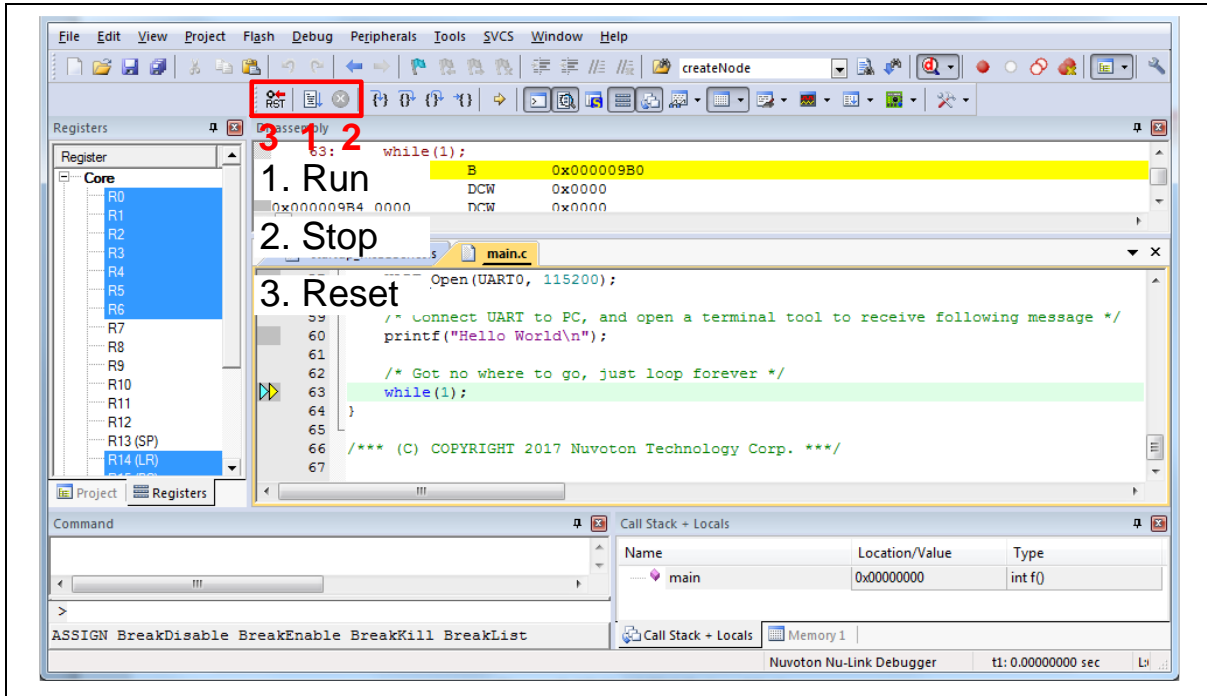
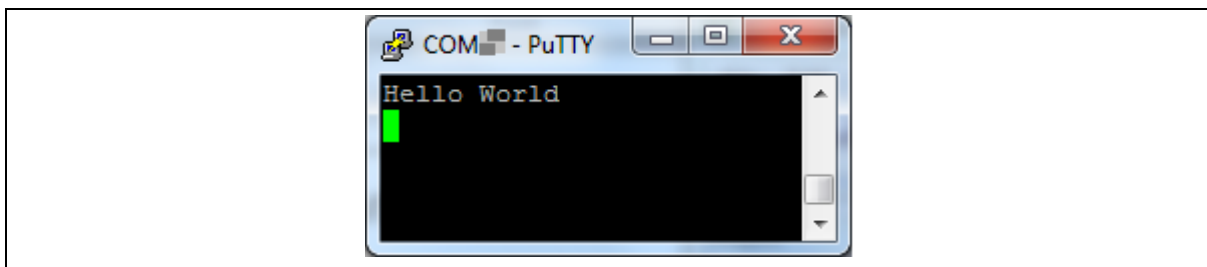

Figure 5-13 Keil MDK Debug Mode
Figure 5-14 Debug Message on Serial Port Terminal Windows
4. Figure 5-13 shows the debug mode under Keil MDK. Click “Run” and the debug message will be printed out as shown in Figure 5-14. User can debug the project under debug mode by checking source code, assembly language, peripherals’ registers, and setting breakpoint, step run, value monitor, etc.